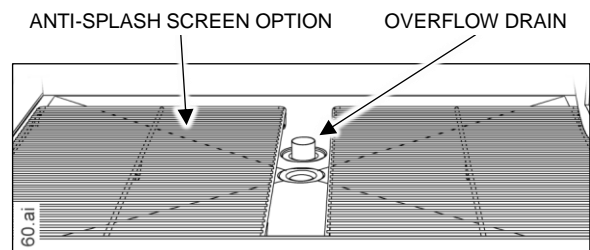

Figure 4-2
2. If applicable, ensure that any optional accessories are clean and correctly installed (such as anti-splash screens as shown in Figure 4-2).
3. Make sure the Manual Drain Valve Handle is closed (Figure 4-2).
4. Manually add water to the oven's water pan, filling it to the top of the overflow drain (Figure 4-2).